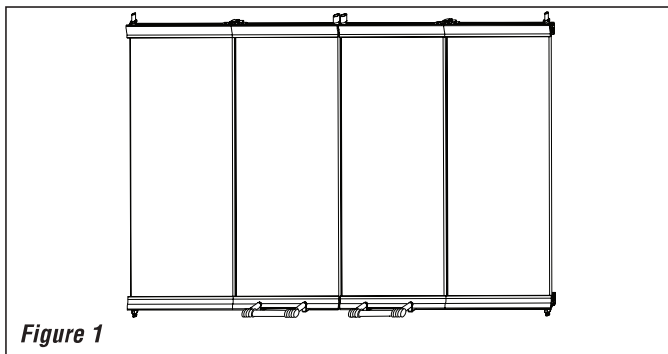

Figure 1
Step 1. Refer to **Figure 1** on page 1 for correct door position. Starting with the left door panel, hold it at a slight angle to the door frame outer edge, with the top of the door tilted toward the center of the firebox.